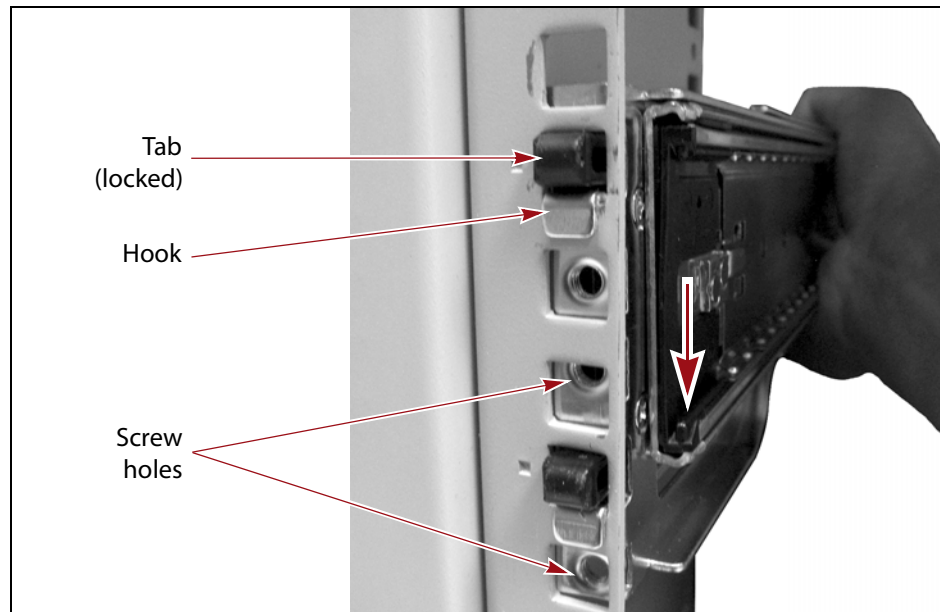

Figure 24 Press the rail down to lock it into place.
- a. Install two outer rail screws and washers in the holes above and below the bottom mounting hook in the front mounting bracket to secure the rail to the front post (see Figure 24).